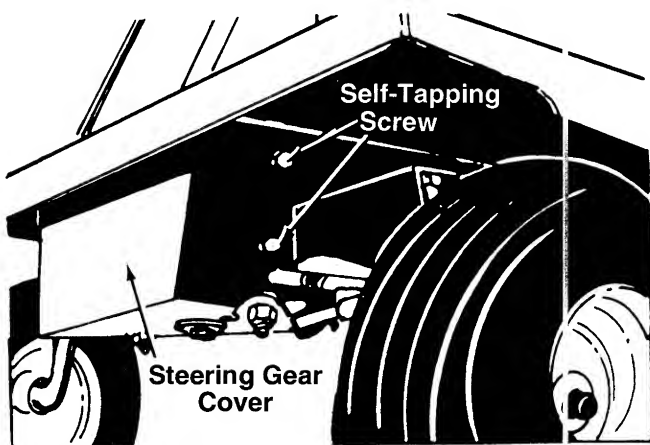
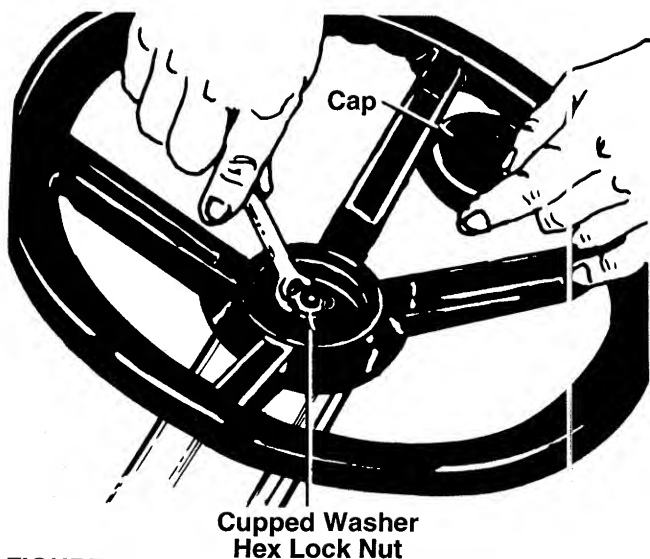

FIGURE 7.
FIGURE 8.
14. Install the **steering gear cover** (D) as shown in figure 7, to cover the underside of the steering mechanism. Secure with two **self-tapping screws** on each side of the cover. Do not completely tighten any of these screws until all four of them are positioned correctly.
16. Place **steering wheel** (B) in position desired. Make certain the steering wheel is seated over the end of the steering tube.
17. Place the **cupped washer** with the cupped side down over the **steering shaft**. Secure with 5/16" **hex lock nut**. See figure 8.